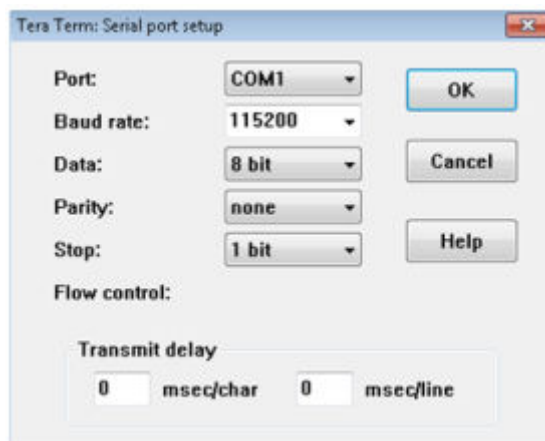

Figure 3. TeraTerm Configuration
6. Open a second TeraTerm window for Board B, select the correct COMM port for your serial cable connected to Board B and configure as in Figure 3.